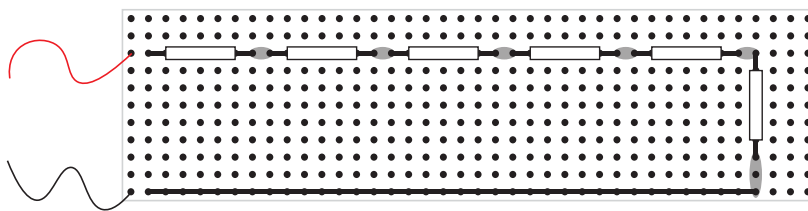

Figure 1.7: Initial circuit with six resistors. **Note:** This circuit is still not the full configuration of the ladder network.
2. Prepare the initial circuit's configuration according to Figure 1.7